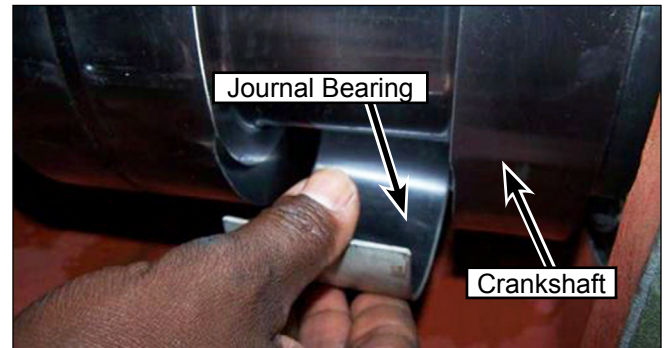

Figure 121: Install Journal Bearing.
2. Slide the bearing (Figure 121) into the connecting rod from below the crankshaft journal.